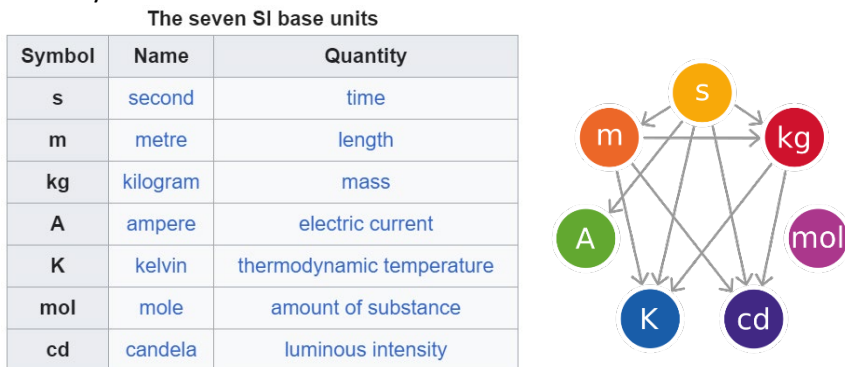

Figure 6 Base units of the SI or International System
2.2 UNITS: The SI base units can be seen in Figure 6 and some of the derived units (which were mentioned in Part 1) in Table 2 . A very useful free infographic on base units and derived units is freely available at [NIST SI Base Units Relationships Poster, 2020]. Although the origin of the base units, the associated constants and the way to replicate the measurements are detailed in the ISO/IEC 80000 Standard, with versions for different branches of physics and technology, free guides with formatting recommendations, and its historical evolution such as [NIST- The International System of Units (SI), 2019] are available. Practical user guides such as [NIST Guide for the Use of the International System of Units (SI), 2008] are of great help. In these guides it is possible to find units not included in the SI but accepted in their use (hour, minute for example) and conversions to historical units (psi, foot, calorie, BTU) that are still widely used in the industry.